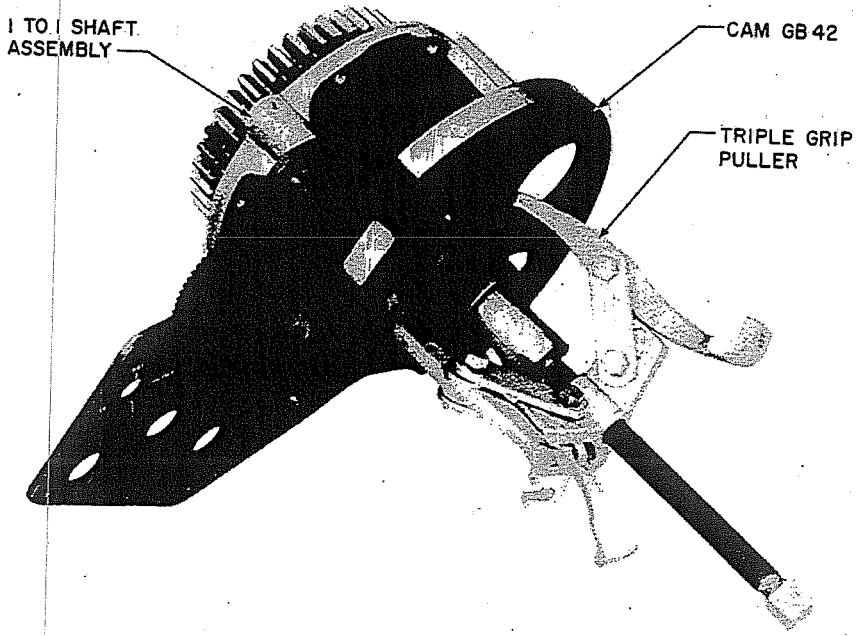

Figure 26. 1 to 1 Shaft, Removal of Cam GB42
- B. Secure the triple grip puller behind Moving Deck-Scissor Cam GB42 (page 5 of Parts Catalog), with the legs of the puller through the openings of the cam (figure 26). The moving deck-scissor cam should be moved far enough to allow insertion of the bearing pulling attachment to remove the cam. If the cam cannot be moved with the mechanical puller, a stationary press will be required to remove the cam from the shaft.